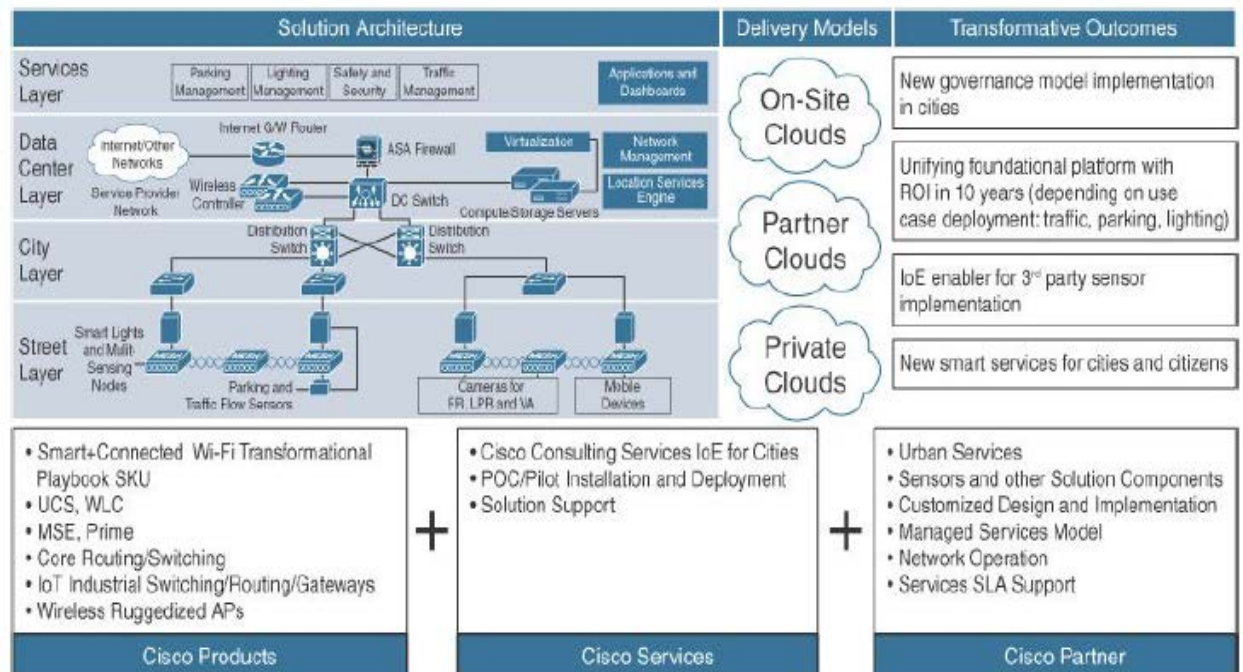

Figure 5.12 Smart Cities Layered Architecture
- A smart city IoT infrastructure is a four-layered architecture, as shown in Figure 5-12.